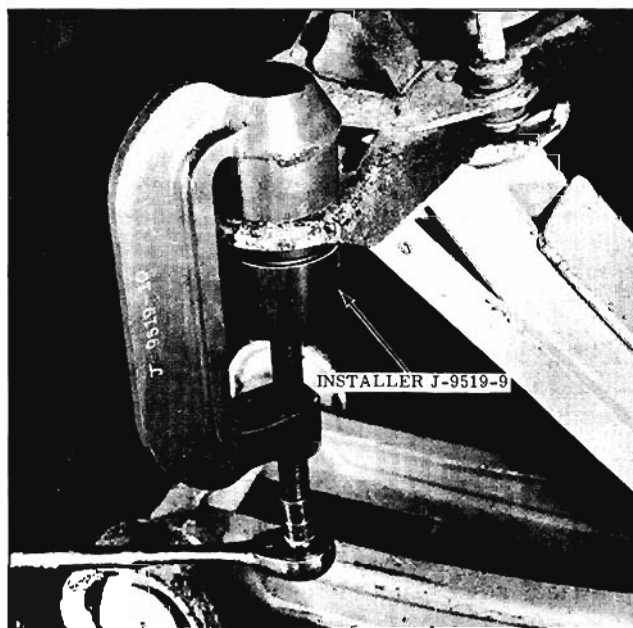

Fig. 9-29 Installing Lower Ball Joint
- Install new ball joint assembly as shown in Fig. 9-29.